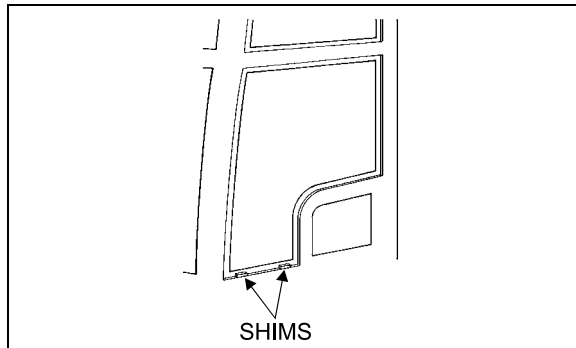

FIGURE 36: ADHESIVE-MOUNTED WINDOW
**Note:** Use small shims to raise the glass in proper position. Shims can be cut from the tremshield tape (Fig. 36).